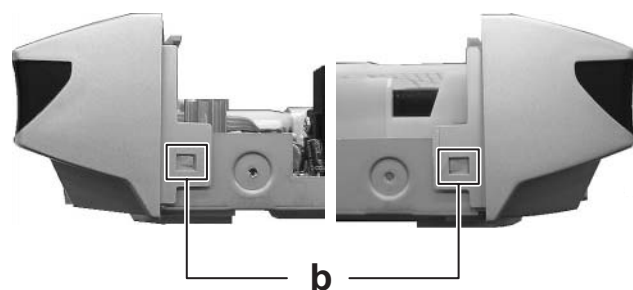

Fig.4
- (3) Release the hook **a** of bottom side and hook **b** of both side of front panel assembly. (See Fig.4 and 5)